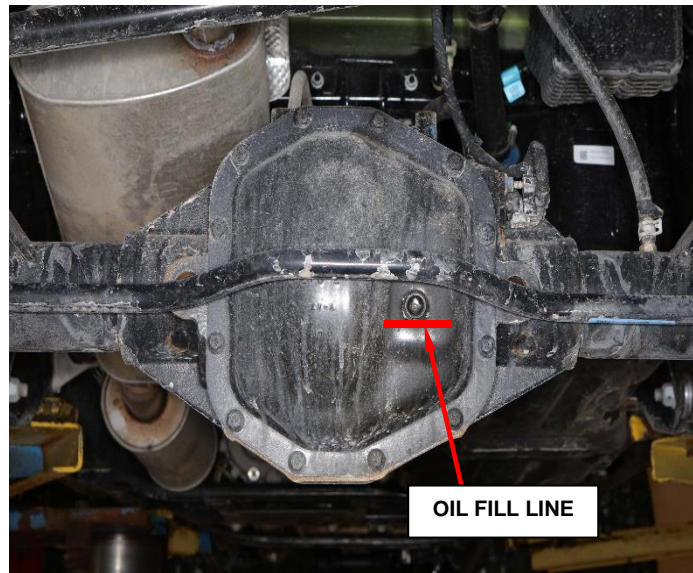

Figure 8 – Axle Oil Fill
11. Remove the axle drain plug and check fluid level (Figure 8).